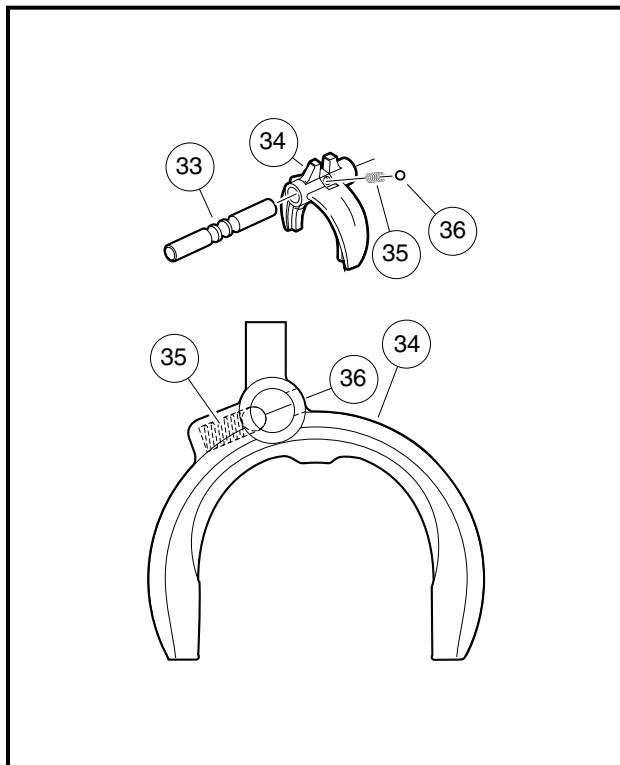

Figure 5-31 Align Spring, Ball and Insert
1. Install the spring (35) and ball (36) into the shifter fork (34) (**Figure 5-31, Page 5-18**).